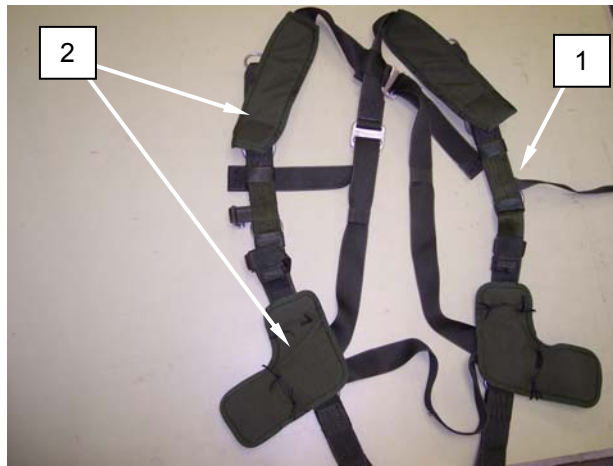

Figure 11. Proper Layout of Harness Assembly.
1. Lay out the harness assembly (Figure 11, Item 1) ensuring that the L-shaped ejector snap pads and shoulder pads are facing up (Figure 11, Item 2).